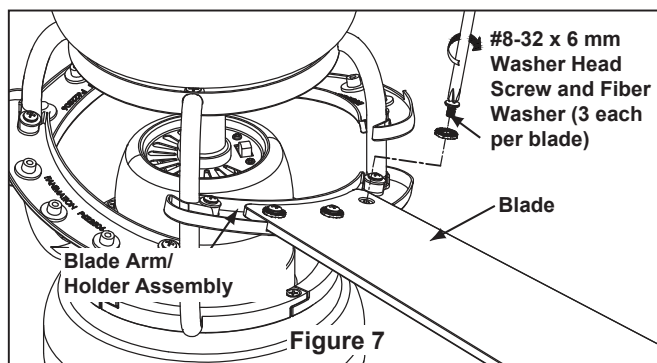

Figure 7
- ☐ 7. Position the blade over the blade arm/holder assembly with threaded posts showing. Make sure the bottom edge of the blade is fully seated against the blade arm/holder assembly. Tighten the #8-32 x 6 mm washer-head screws with fiber washers to secure the blade to the blade arm/holder assembly. (Figure 7)
- ☐ 7. Assemble the housing on to the motor assembly using the four screws that were previously removed. (Figure 7)